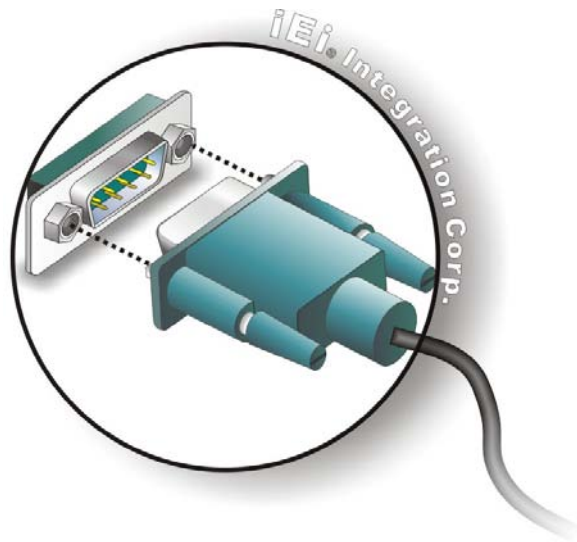

Figure 3-23: Serial Device Connector
Step 2: **Insert the serial connector.** Insert the DB-9 connector of a serial device into the DB-9 connector on the external peripheral interface. See **Figure 3-23**.